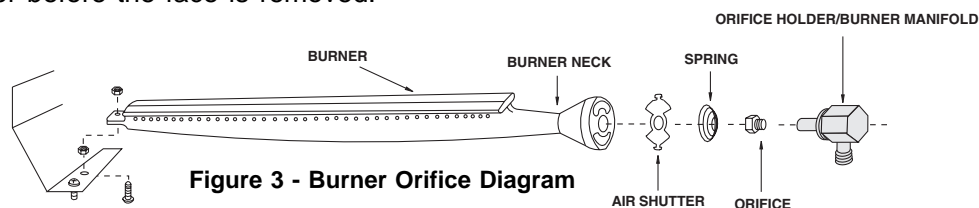

Figure 3 - Burner Orifice Diagram
f. After checking orifice drill size, install the Air Shutter Spring and the Air Shutter over the orifice holder fitting, between the Burner and the Pipe Manifold, in the order and position shown in Figure 3.
Fire Magic Burners are constructed of heavy-duty Cast Stainless Steel (Cast Brass and Porcelainized Cast Iron Burners are also available) and will withstand many years of outdoor use, if ordinary precautions are taken. Once or twice a year inspect the Burners and determine if dirt or debris is building up excessively. Burners can be removed and scraped to remove debris from ports. Replace Burners immediately if they show any signs of weak or thin walls. Refer to the bottom of page 4, figure 3 for installing Burners.